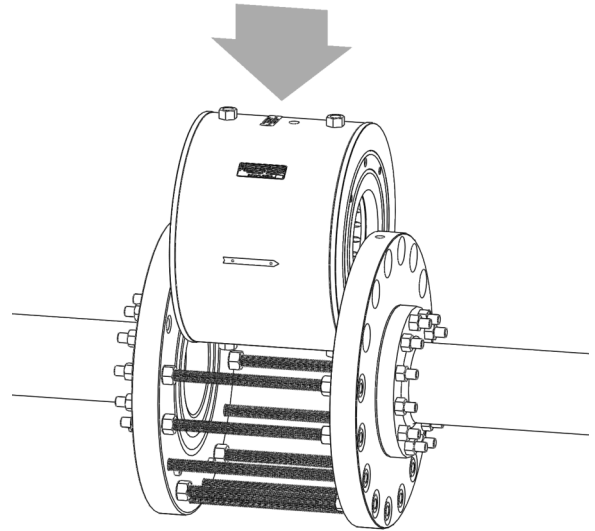

Figure 21 -Replace body assembly in line.
17. Replace the body assembly in the line as shown in Figure 21 below. Use caution to avoid O-ring damage as the body assembly slides between the line flanges.